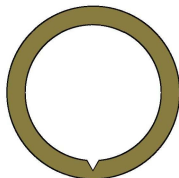

Figure 2
- **Step 5** Modify one CR-5055 ring with a "V" notch in the inside diameter, as shown in Fig. 2 above. Mark this as a "B" ring.